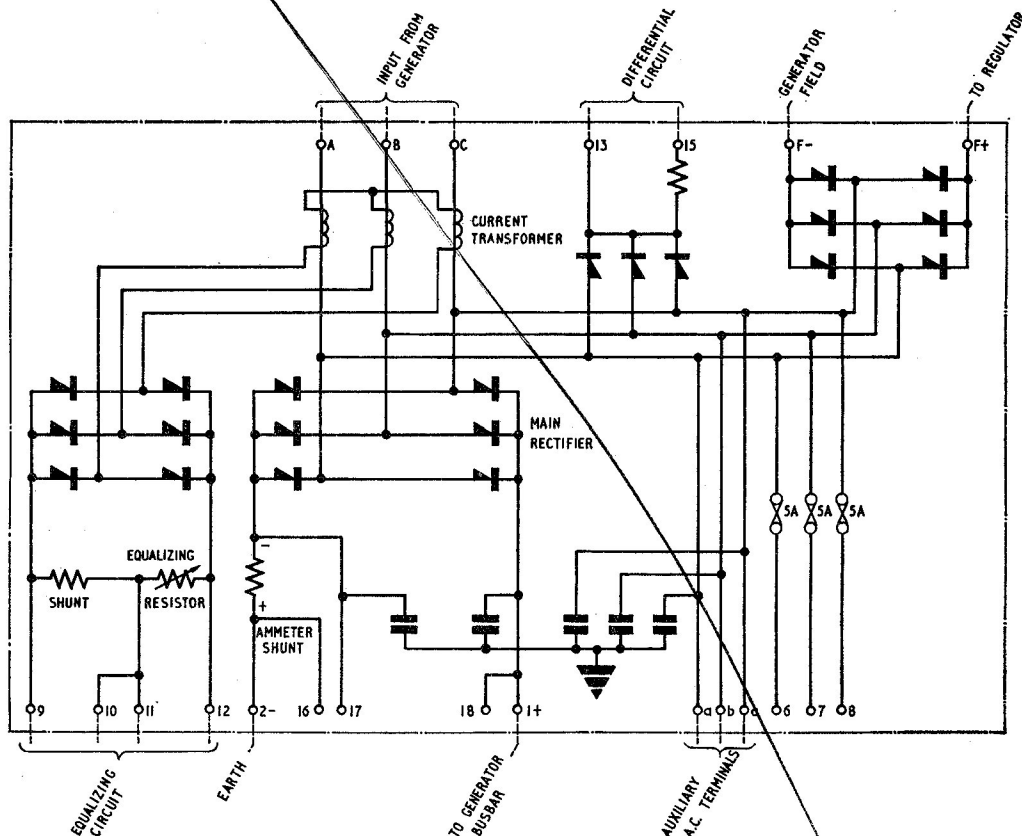

Fig. 2. Circuit diagram
3. The circuit diagram for the unit is shown in fig. 2, reference should also be made to the circuit diagram in the Aircraft Handbook, which shows the unit connected in circuit with the associated components.